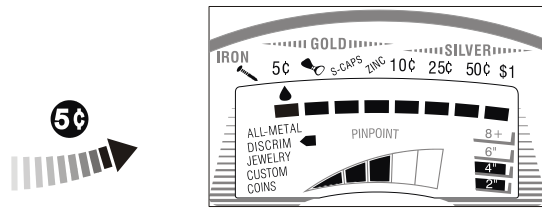

Fig13
- d) When sweep the other three samples, the response of the detector is the same with the ALL METAL mode.(See Figure.13,for example as 5 ¢ coin)